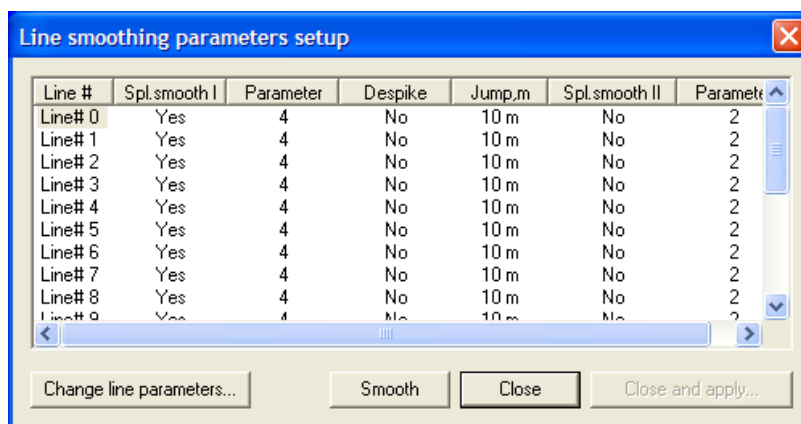

Figure 103: GPS Line Smoothing Parameters dialog box.
1. After selecting the GPS menu option > Smooth positions, select the GPS Smooth Position option from the Main menu and the Line Smoothing Parameters Setup window will be displayed (Figure 103).